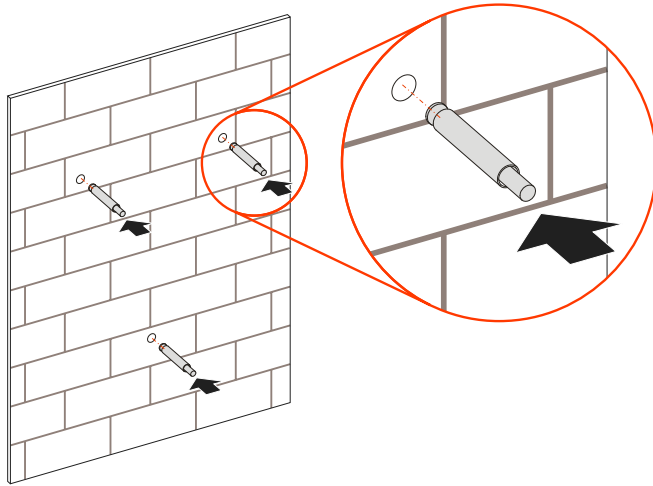

Figure3-9 Install expansion bolts
Step 3 Install the equipped 3 expansion bolts M6\*60 into the holes, as shown in Figure3-9.